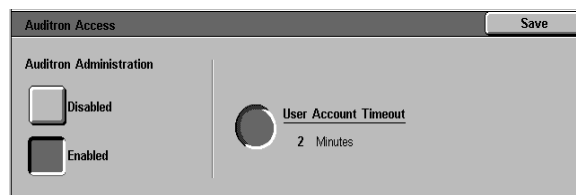

Figure 41: Enabled button
- To enable and use the Auditron feature, touch the **Enabled** button, Figure 41.